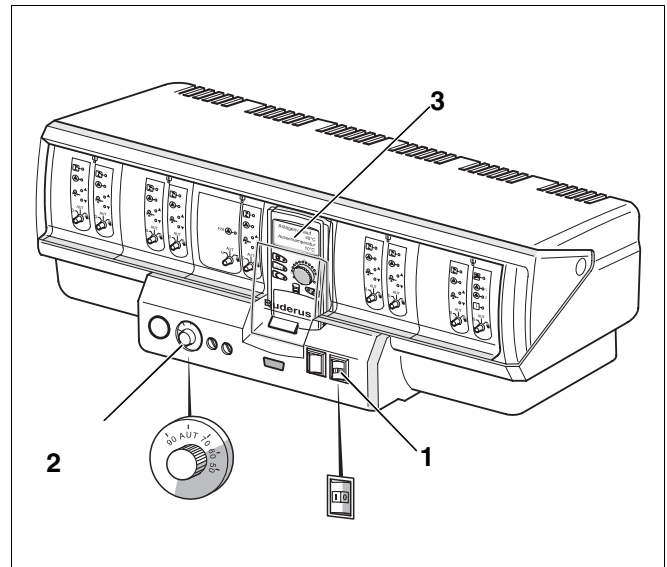

Fig. 1 Logamatic 4000 control unit
- Set the On/Off switch to (fig. 1, **item 1**) to position "1" (ON).
- Set the boiler water thermostat (fig. 1, **item 2**) to the required temperature.
- Set the On/Off switch to (fig. 1, **item 1**) from position "1" (ON) to position "0" (OFF).
Burner faults are indicated by indicator lamps on the burner and on the control unit as well as in the display (fig. 1, **item 3**).